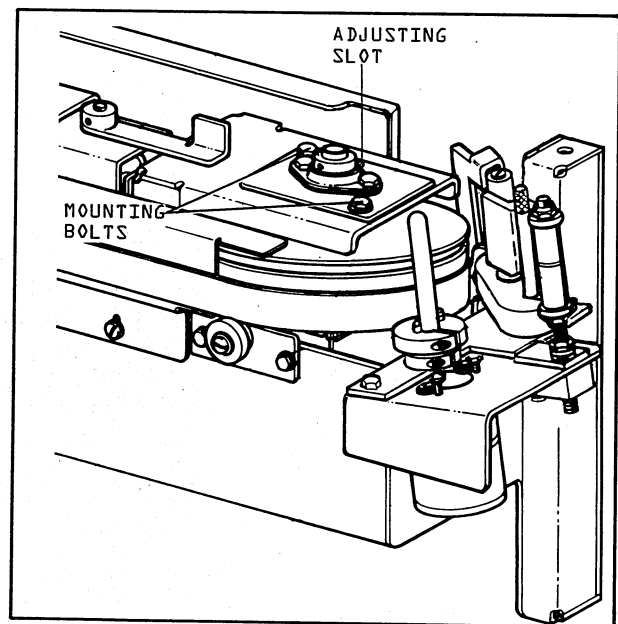

FIGURE 5-6. TRACKING ADJUSTMENTS LOCATOR
10. Loosen the two bolts mounting the bearing plate assembly to the print gate (see Figure 5-6).